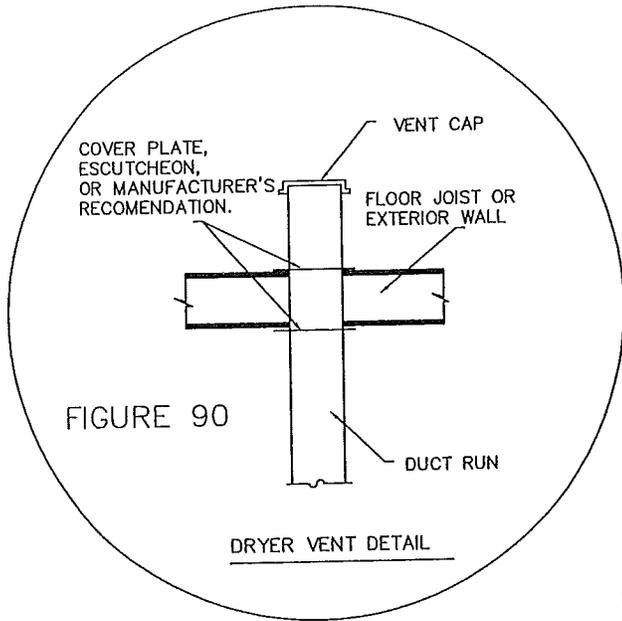

FIGURE 90
2. Access to rough in from outside may be located on the bottom side of the floor or on an exterior wall. See Figure 90.